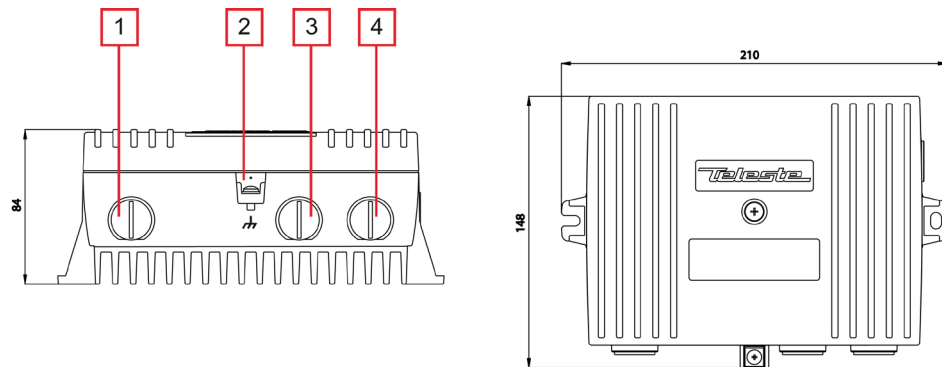
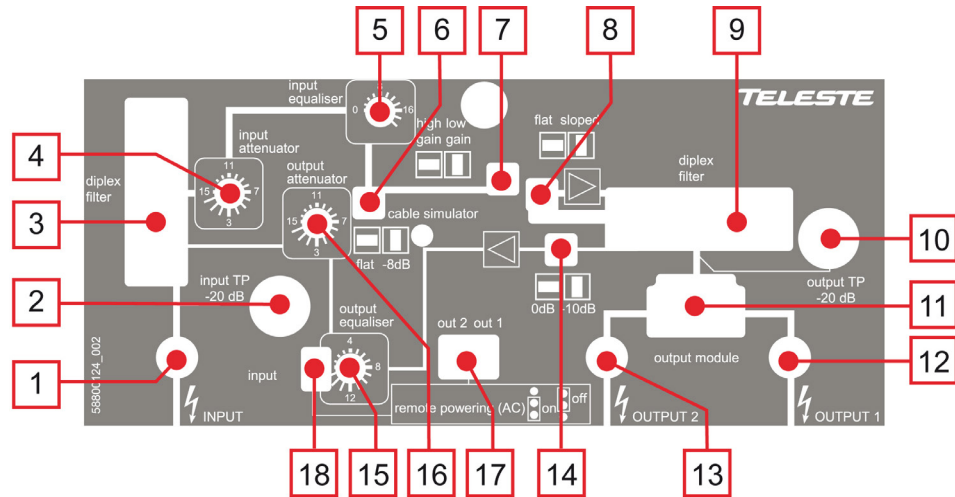

Figure 1. CXE180 amplifier
Figure 4. CXE180 Front panel
NOTE! Make sure the input attenuator adjustment (Figure 4 pos. 5) is at its minimum level before connecting power to the amplifier.
The supply voltage of the remote powered amplifier (26...65 V AC) can be fed through either of the output ports (Figure 1 pos. 3 & 4) or the input port (Figure 1 pos. 1). Make sure the remote powering jumpers (Figure 4 pos. 20 & 21) are in the correct positions for remote powering. Refer to chapter 'Jumper settings'. External power can also be fed through the amplifier into the network by moving remote powering jumpers of the output ports to "on" position. Maximum feed-through current is 3 A per port (6 A total). When F connector is used, a remote current should be lower than 2 A.
The output stage uses a GaAs hybrid to improve RF performance over the entire 47 to 1006 MHz passband. The distribution path, through the use of plug-in output modules (Figure 4 pos.11), can be set up for a variety of output configurations. Refer to the 'Table 1. Output modules with corresponding nominal attenuation values'. During amplifier adjustment the plug-in unit position for output module must be equipped at least with the 0 dB module.
Set the mid stage slope of the amplifier according to the network plan calculation by means of the mid stage slope selection jumper (Figure 4 pos. 8). The available options are "flat" (0 dB) or "sloped" (8 dB).
Set the output slope of the amplifier according to the network plan calculation by means of cable simulator (Figure 4 pos. 6). The output level of the amplifier is adjusted with the variable input attenuator (Figure 4 pos. 4). Measurements on the output are made at the -20 dB output test point (Figure 4 pos. 10). Make final adjustment of the output slope with the variable input equaliser (Figure 4 pos. 5).
If you are having trouble obtaining the expected output level then check the input test point (Figure 4 pos. 2) to verify that the level is as expected at the input of the amplifier. The mid stage gain selection jumper (Figure 4 pos. 7) can be used to reduce gain with 8 dB if input levels are enough to cause a high distortion level in the input amplifier.
The output stage uses a GaAs hybrid to improve RF performance over the entire 47 to 1006 MHz passband. The output ports, through the use of passive plug-in output modules (Fig. 4 pos. 11); can be set up for a variety of output configurations. Refer to 'Table 1. Output modules with corresponding nominal attenuation values'.
Optional return path operation needs plug-in diplex filters (Figure 4 pos. 3 and 9). The available diplex filter types are CXF030 (30/47 MHz), CXF042 (42/54 MHz), CXF050 (50/70 MHz), CXF065 (65/85 MHz) and CXF085 (85/108 MHz). It is also possible to use special diplex filter of type CXF065 18 in the output diplex filter plug-in (Figure 4 pos. 9). CXF065 18 is a combined diplex filter and ingress blocker. It blocks out the lowest frequency band (5...18 MHz). If return path is not used at all, diplex filters can be replaced by forward path jumpers CXF000.
Inject a test signal of known power to the output test point (Figure 4 pos. 10). The output test point can be used as an injection point for return path test signal. Measure the output level at the headend. Adjust the gain (Figure 4 pos. 16) and the slope (Figure 4 pos. 15) of the amplifier until the target level is produced. Maximum control range for the return path slope is 15 dB. The adjustment range for return path gain is 15 dB. In the case of high input level it is recommended that the return path input attenuator is in -10 dB mode. (Figure 4 pos. 14). Thus, it is possible to achieve higher attenuation with a maximum amount of 25 dB.